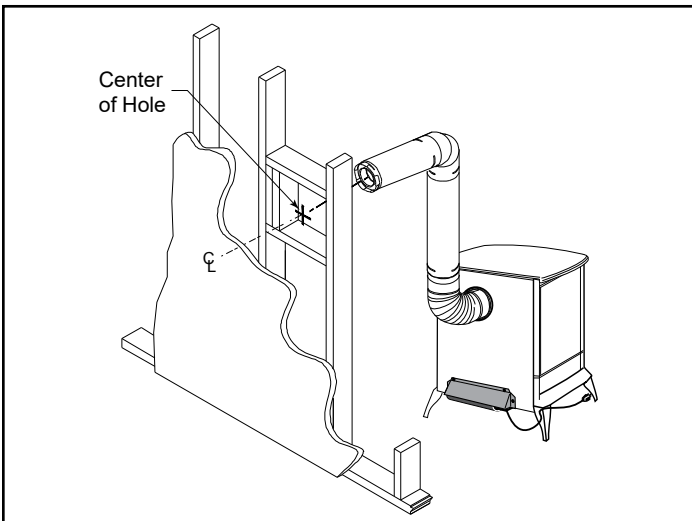

Figure 3.25
**Step 3** - With the appliance adapter and pipe section attached, slide the stove into its correct location. Mark the wall for a square hole that measures 10" x 10" (254 x 254 mm). The centerline of the pipe should line up with the center of the square hole, Figure 3.25. Cut and frame the square hole in the exterior wall where the vent will be terminated. If the wall being penetrated is constructed of noncombustible material only, i.e. masonry block, brick or concrete only, a hole with zero clearance is acceptable.